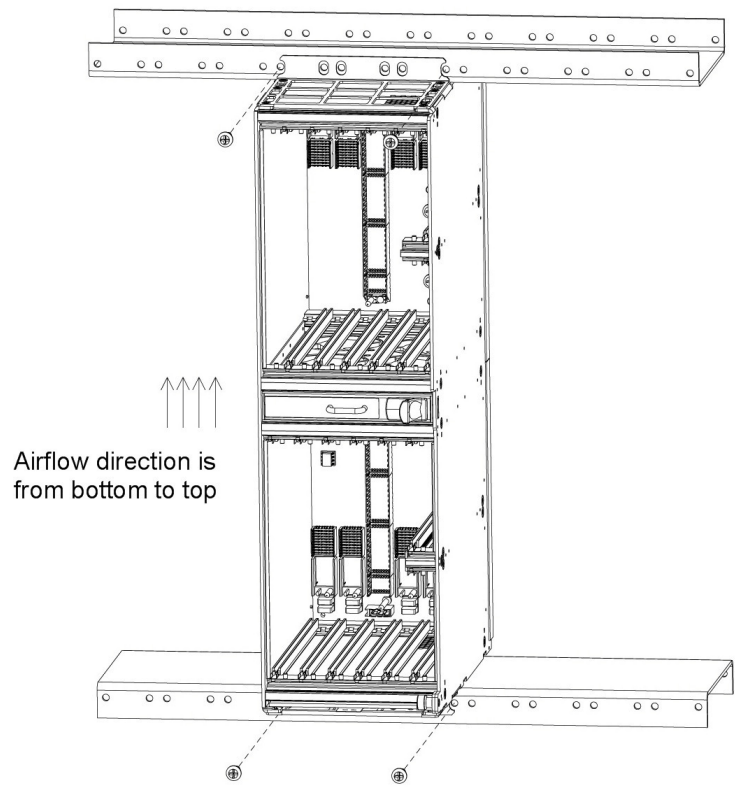

Figure 4. Mounting the Allied Telesis 9810 Chassis into a Horizontal Rack Mount.
2. Install the top mounting bolts into the rack. Refer to Figure 4.